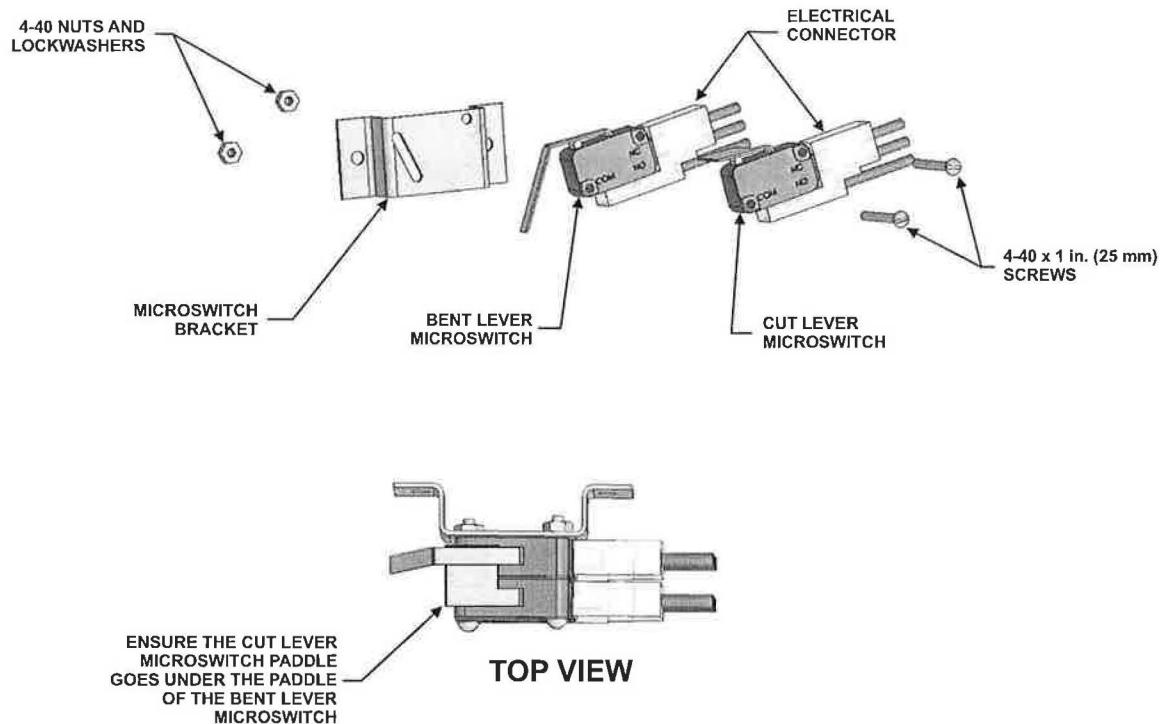

Figure 4-50. Dual SPDT Microswitches and Mounting Bracket, P/N 9197228
3. Mount the microswitches to the mounting bracket. Ensure the cut lever microswitch paddle goes under the paddle of the bent lever microswitch. Refer to Figure 4-50 :